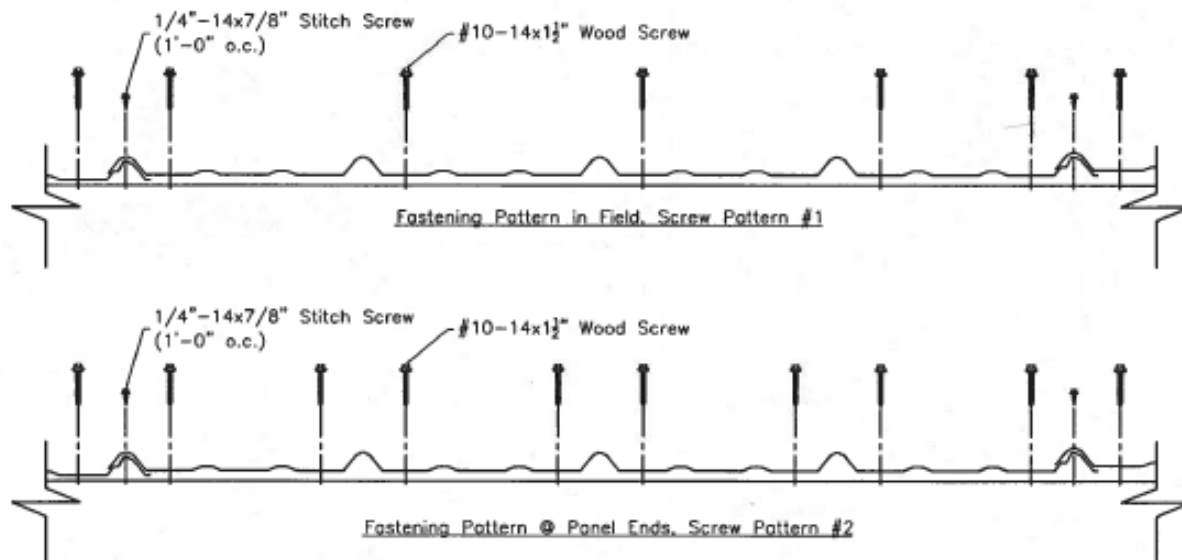

Figure 1. Fastener Patterns
**Installation Over an Existing Roof Covering:** Installation over an existing roof covering is limited to a maximum of one layer of composition shingles, wood shingles or shakes, built-up roofing or roll roofing applied over an existing solid roof deck. The wood purlins must be secured to the wood rafters or trusses using two (2) minimum No. 8 wood screws per roof framing member. The fasteners must be long enough to penetrate a minimum of 1-1/2" into the roof framing. The roof framing must be a minimum Southern Yellow Pine dimension lumber. NOTE: underlayment is not required to be installed.
**Wood Purlins:** The wood purlins must be secured to wood rafter or trusses using two (2) minimum No. 8 x 2-1/2" long wood screws per roof framing member. The fasteners must be long enough to penetrate a minimum of 1-1/2" into the roof framing. Roof framing (rafters or trusses) must not exceed 24" on center.
**Attachment of Roof Panels to Wood Purlins:** The Classic Rib roof panels must be secured to the wood purlins with minimum No. 10-14 x 1-1/2" long wood screws with a sealing washer, manufactured by Atlas. The required fastener pattern is shown as Pattern #1 in Figure 1. The required spacing of the line of fasteners is specified in Table 1.
**Panel Ends and End Laps:** Minimum No. 10-14 x 1-1/2" long wood screws with a sealing washer, manufactured by Atlas. The required fastener pattern is shown as Pattern #2 in Figure 1.